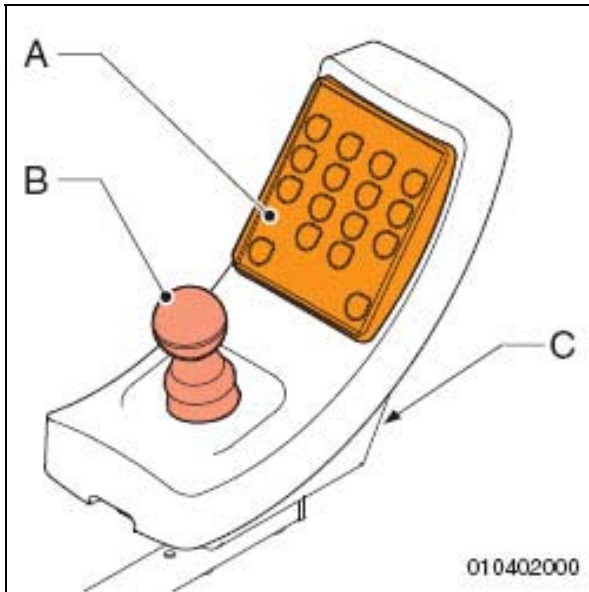

Figure 2.2
- Control panel (A in fig. 2.2).
- Joystick (B in fig. 2.2).
- Charge connection (C in fig. 2.2), see 'charging batteries'.